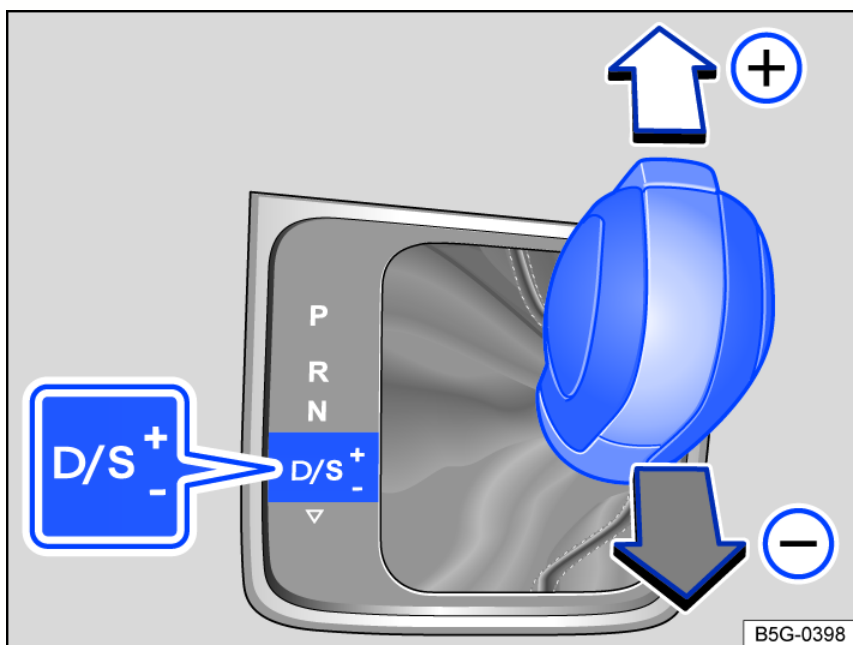

Fig. 119 Selector lever in tiptronic position.
- Tap the selector lever forward (+) or to the rear (-) to upshift or downshift fig. 119.